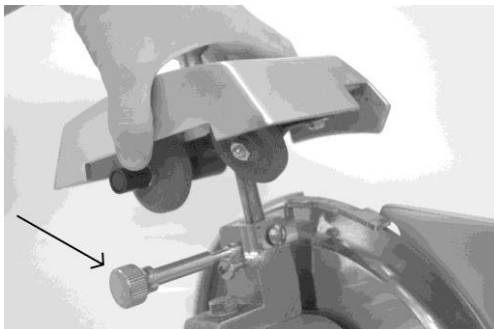

Figure 9
4. Loosen the sharpener release knob by turning it counterclockwise several times (See Fig. 9).
5. Lift the sharpener cover up (See Fig. 9), rotate it clockwise (See Fig. 10) and lower it into position with the knife fitting between the two stones (See Fig. 11).
6. Tighten the sharpener release knob (See Fig. 9) to secure the sharpener.